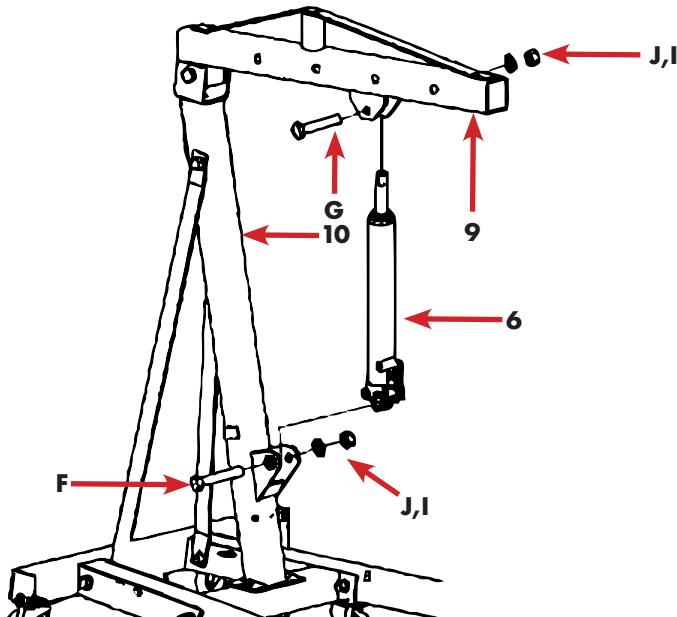

fig.14
- Install the hydraulic cylinder to the bottom hole of the support arm as shown in fig.14.
Legend Figure 14 (see also from page ab15, Figure 2 and Table 1)